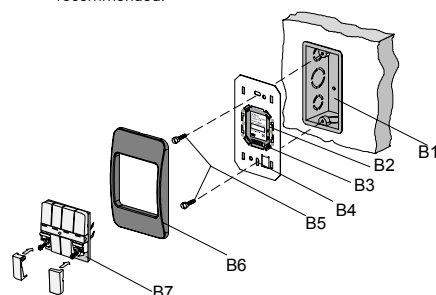

Figure 2: Mounting the bus coupling unit UP 110/03
**Note:** The bus coupling unit UP 110/03 must be mounted with the physical external interface (PEI) situated at the bottom (see Figure 2). Thus, the application unit will be oriented properly when slid onto the PEI. For achieving a permanent stable contact at the PEI, the exclusive use of bus devices provided with mounting screws is recommended.